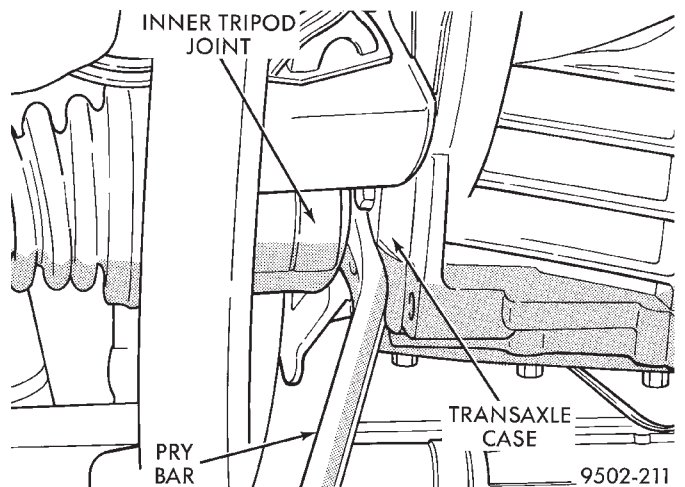

Fig. 13 Disengaging Inner Tripod Joint From Transaxle
(15) Support the outer end of the driveshaft assembly. Insert a pry bar between inner tripod joint and transaxle case (Fig. 13). Pry against inner tripod joint, until tripod joint retaining snap ring is disengaged from transaxle side gear.